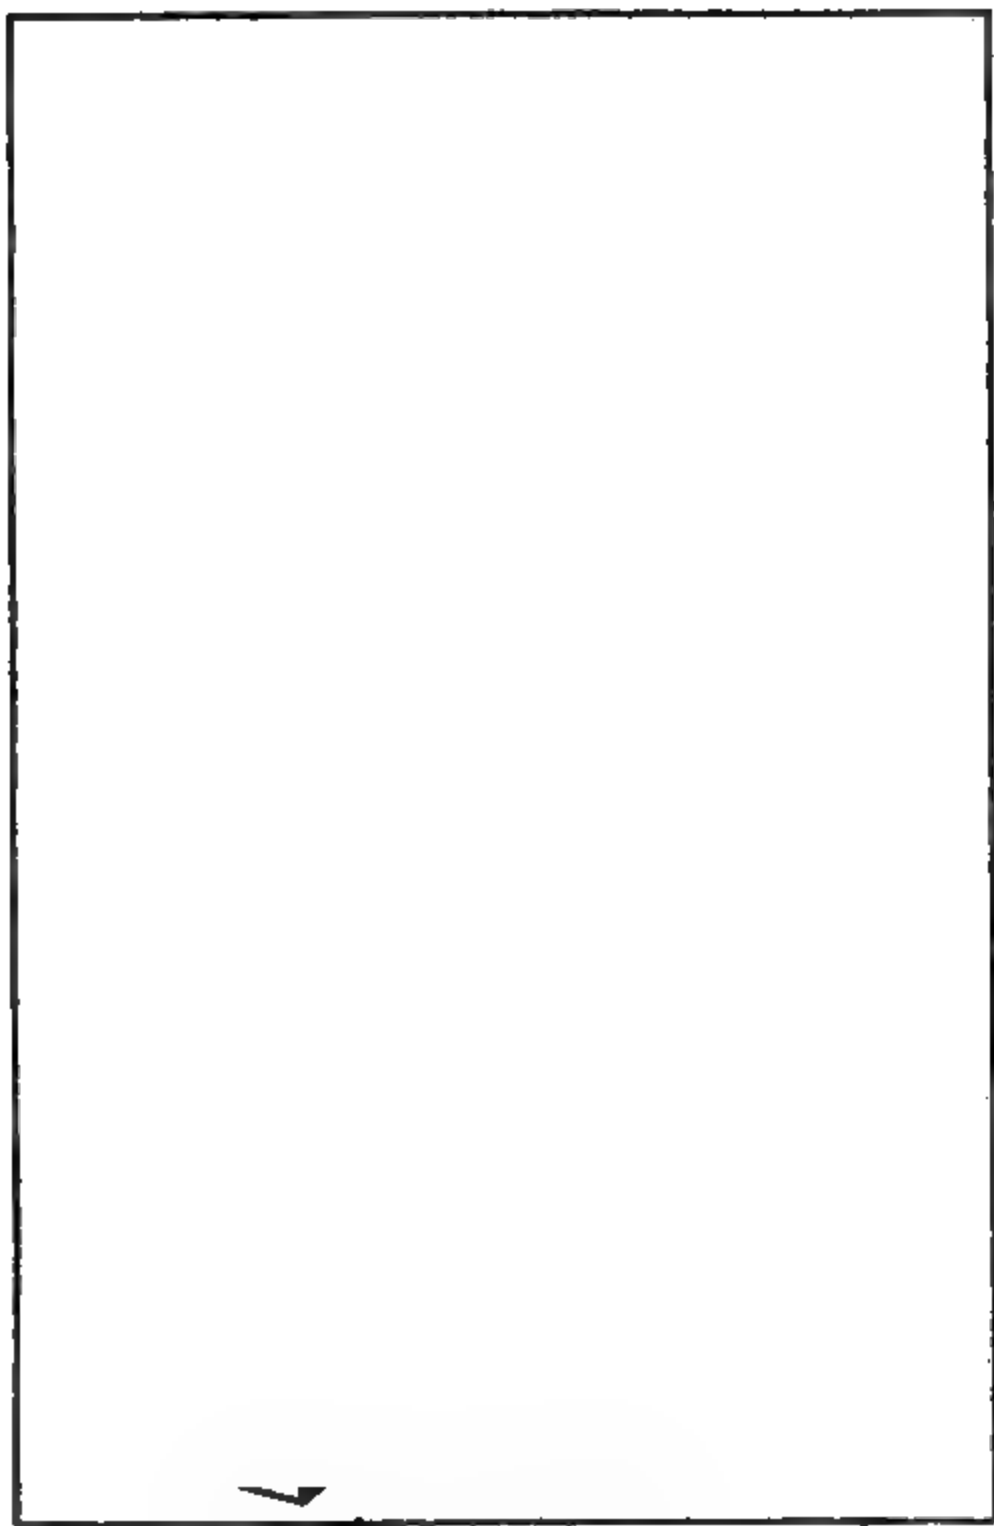

Fig. 137.—(a) Upper part of treadle fret-saw. (b) Shooting board. (c) Three-ply wood.
*Other Tools, etc.*—The ordinary household tools come in as useful for fretwork as for all other woodwork. An occasional requisite, however, is a shooting-board (Fig. 137, *b*) with a small iron plane. For tiny brass screws a pocket screw-driver is useful, but as a substitute the bradawl may be pressed into service. A pair of pliers
*Treadle Fret-saws.*—Although hand fret-cutting is widely practised, there can be no doubt that with a treadle fret-saw (Fig. 137, *a*) the pleasure and interest in this hobby is greatly increased. Treadle saws, if carefully used, will last a lifetime.
*Three-ply Wood* consists of three layers of thin wood glued together, the grain of the inner board lying at right angles to that of the two outer boards (Fig. 137, c). The advantage of this is that, when cutting a delicate fret, a fragile projection is less likely to snap off, as it is supported by the grain of the cross board. Much of the three-ply